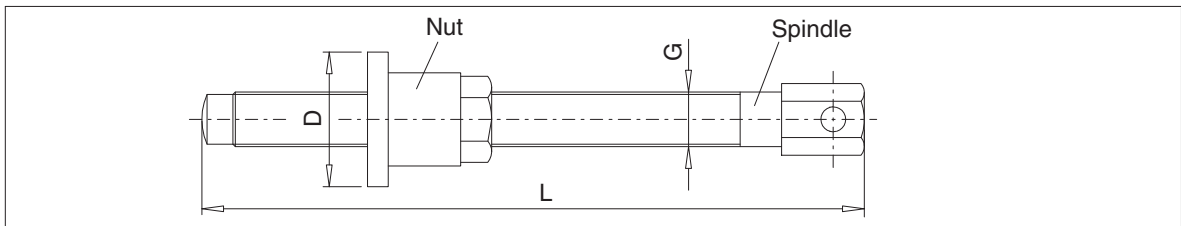
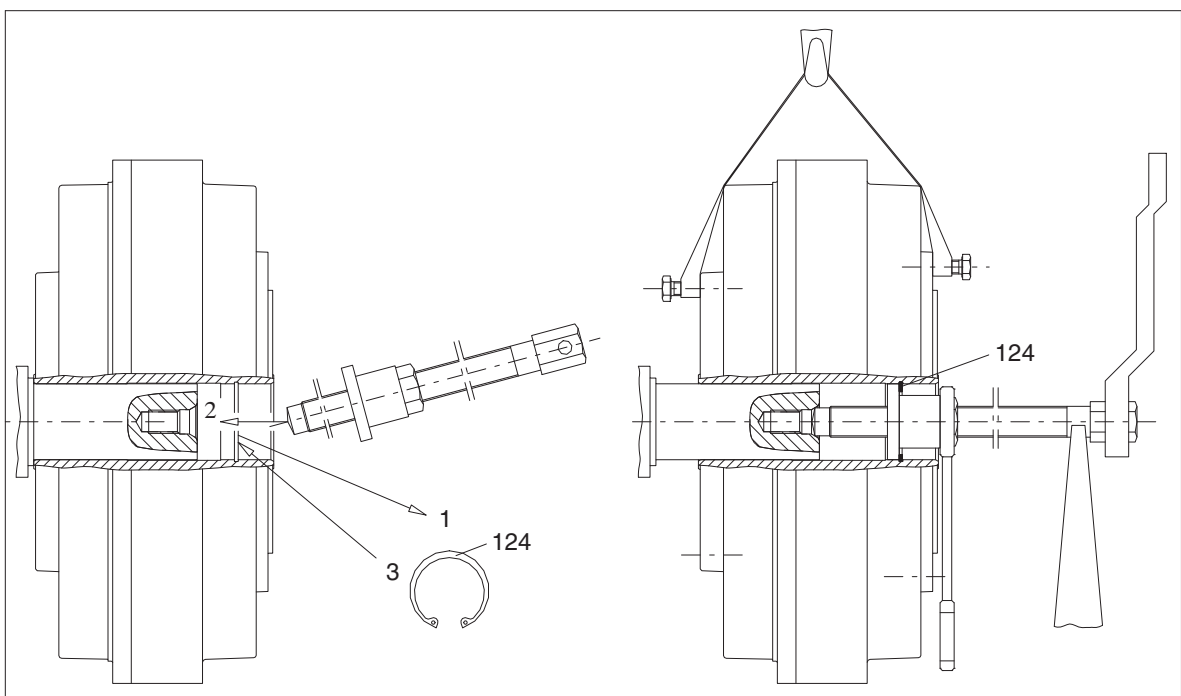

Fig. 11: Disassembling sizes 297 and 342 - a
Fig. 12: Disassembling sizes 297 and 342 - b
The coupling is best pulled off with the aid of a special detaching device as shown in figure 11. The spindle with the pulling-off nut is inserted so that the collar (D) of the pulling-off nut is located behind the recess for the locking ring (124) (Fig. 12). To prevent the spindle seizing, the pressure surface and the thread must be treated with a lubricant (e.g. Molykote).